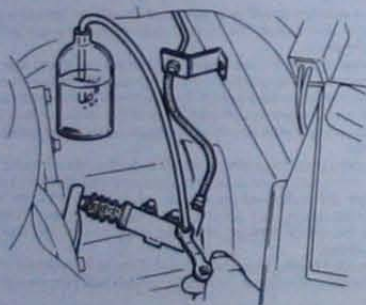

Fig. 6.7 Bleeding the hydraulic clutch system (Sec 6)
1. The clutch hydraulic system must be bled whenever any part of the system is disconnected. The system is bled via the bleed screw on the slave cylinder using a similar procedure to that given for the braking system in Section 5 of Chapter 9 (Fig. 6.7).